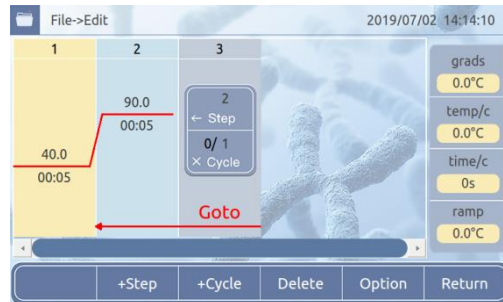

Figure 4
- a. Click "New" to enter the new editing interface. Above the temperature curve is the temperature, below is the time, click on the temperature or time to set its parameters by the number keys (see Figure 4). Click the "+Step" button and the "+Cycle" button to add temperature steps and cycle steps. (The maximum number of steps is no more than 30).